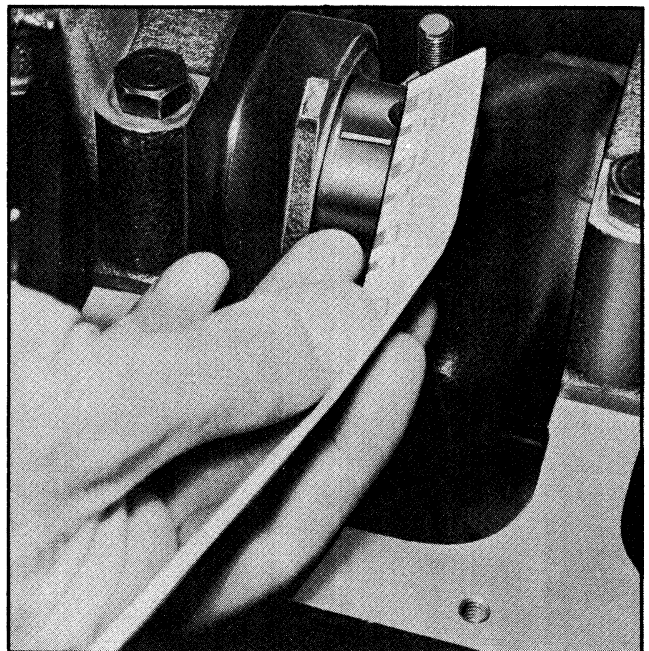

Fig. 6-61 Measure Plastigage
3. Remove bearing cap and using Plastigage scale on envelope measure width of compressed Plastigage before removing it from the crankpin or bearing (Fig. 6-61). If the bearing clearance is between .0005" and .0025" the clearance is satisfactory. If the clearance is more than .0025" replace the bearing with the next size undersize bearing and recheck clearance. Bearings are available in .001" and .002" undersize.